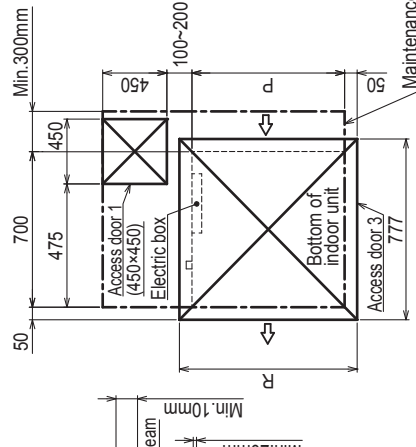

Fig.4 (Viewed from the direction of the arrow B)
- Create access door 1 diagonally below the electric box and access door 3 below the unit as shown in Fig.4.
-Create access door 1 diagonally below the electric box and access door 3 below the unit as shown in Fig.4.